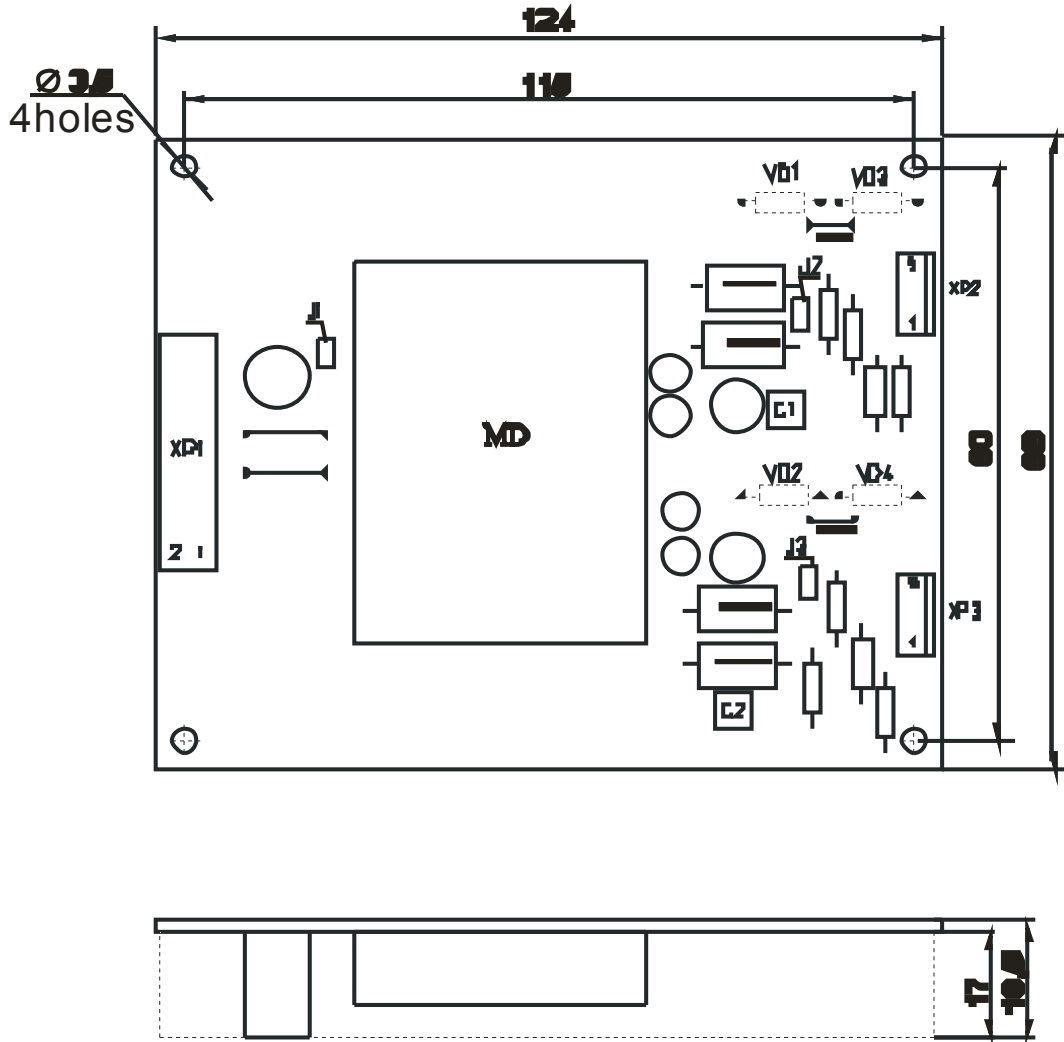
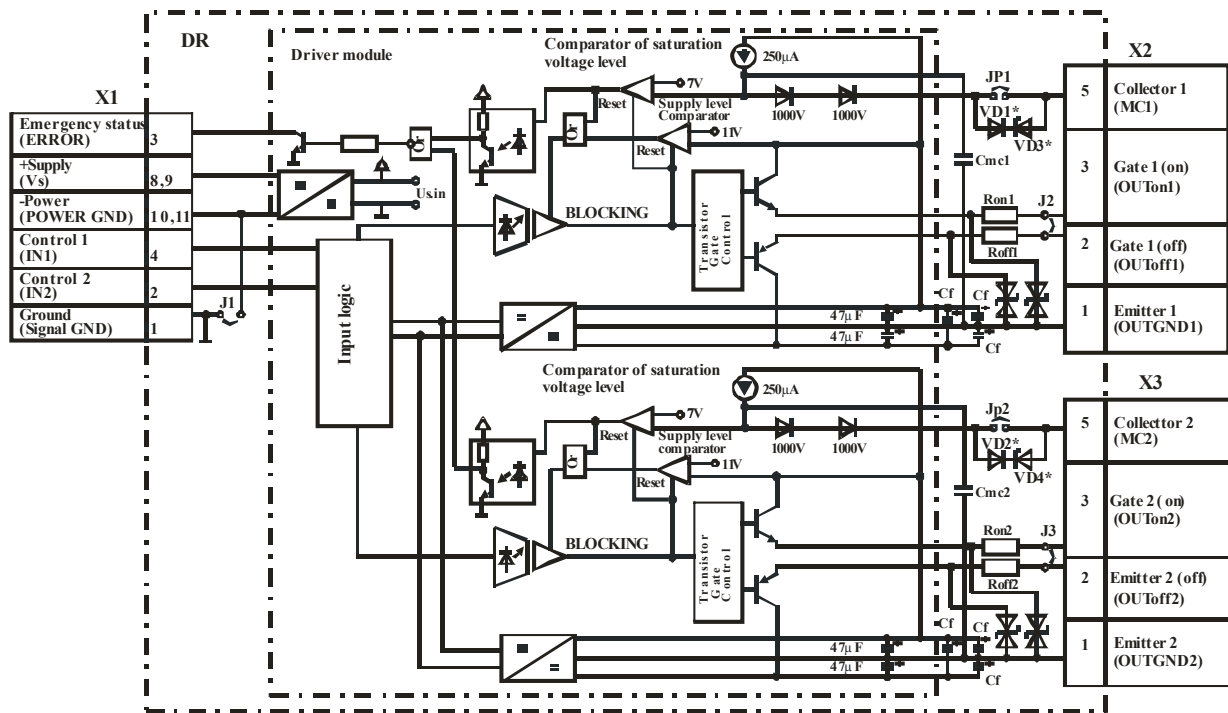

Figure 1 – Overall drawing
Figure 2– Driver functional and turn-on circuits
3.2 Overall drawing is shown at Figure 1, driver functional circuit and turn-on circuit are presented at Figure 2.